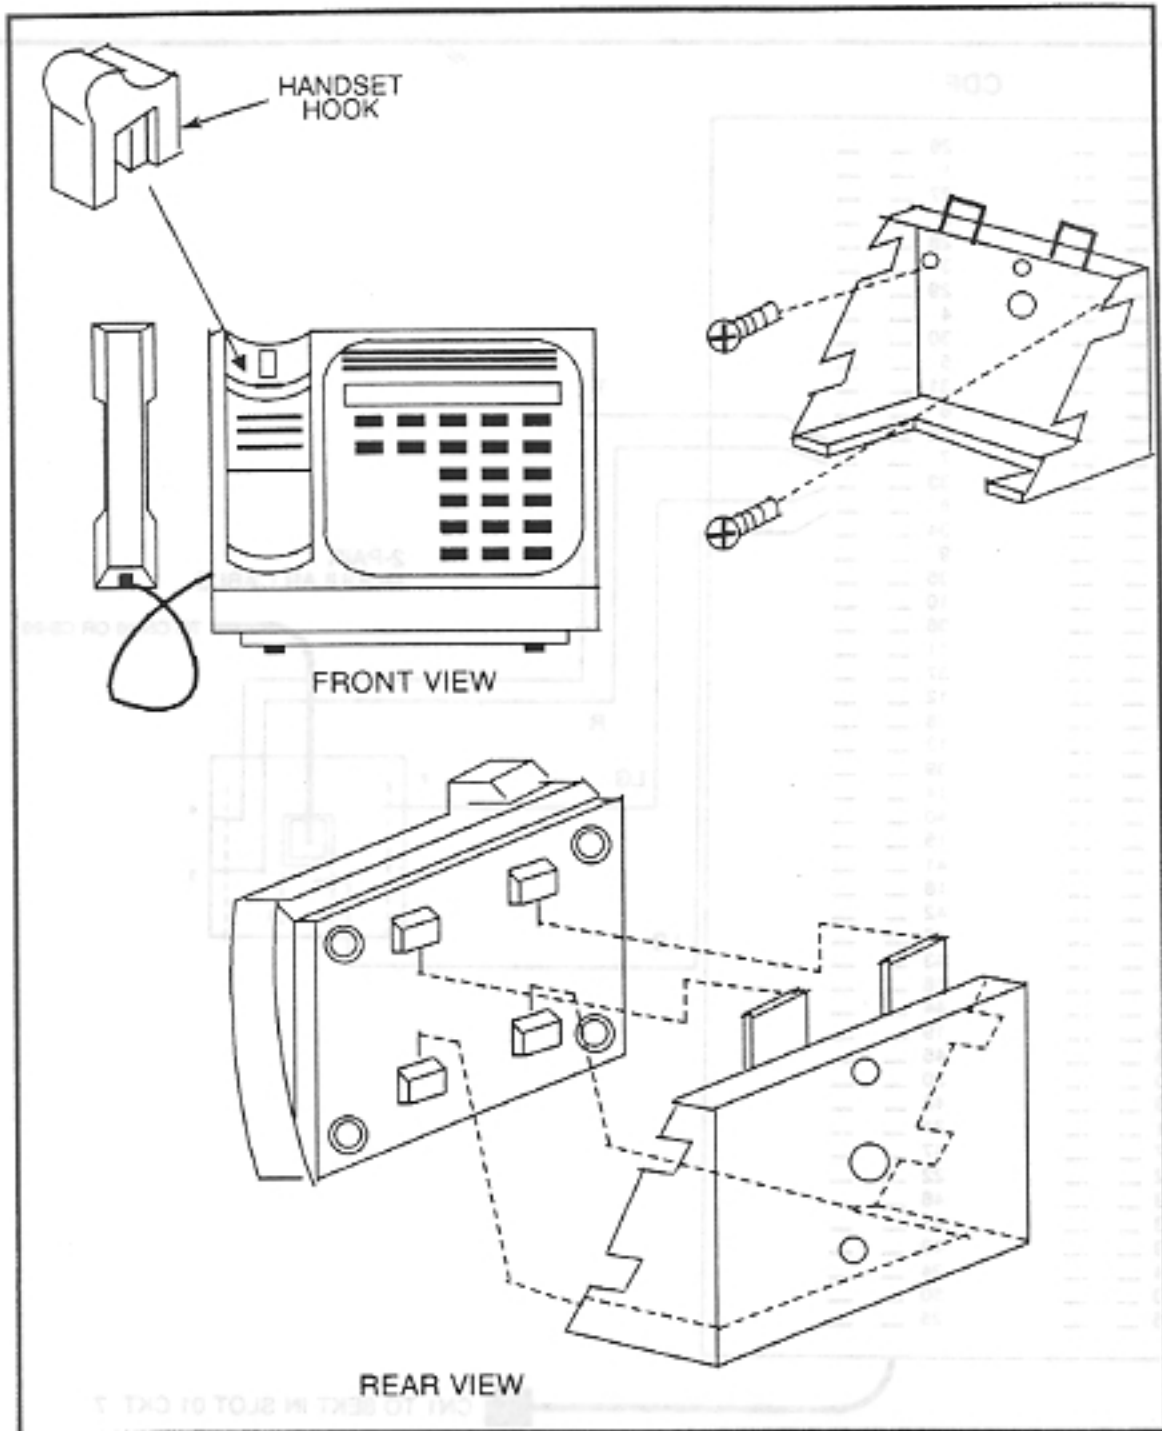

Figure 4.8 Proprietary EKT Telephone Wall Mounting
- (a) Attach the wall-mounted metal base to the wall. There are two screw locations as shown in Figure 4.8.
- (b) Place the telephone set on the wall-mounted metal base as shown in Figure 4.8.
- (c) Install the handset hook as shown in Figure 4.8.
- b. Place the DSS/BLF on the wall mounting base with the four hooks. See Figure 4.8. The DSS/BLF uses the same wall mounting metal base and is mounted the same way as the EKT.